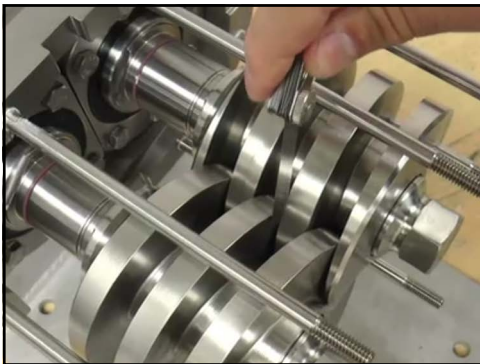

Figure 233 - Measure clearance
8. With a feeler gauge, measure the open clearance between the screw flanks as shown in Figure 233.